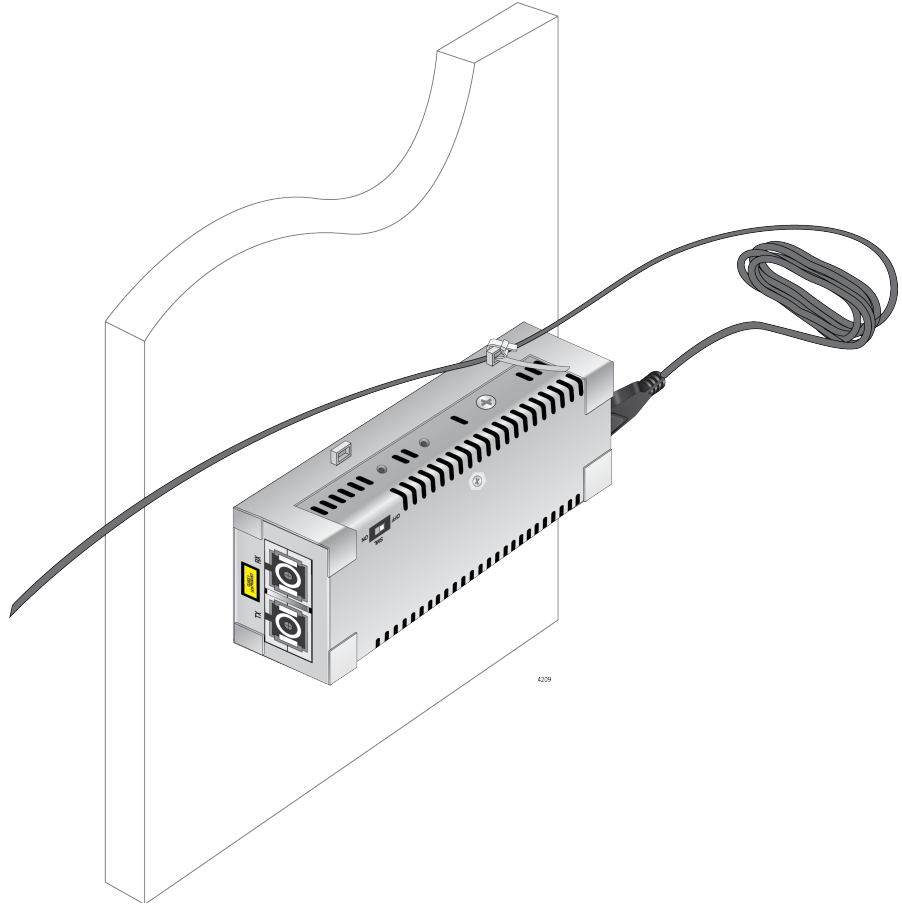

Figure 32. Securing the USB Cable Tie
2. Secure the USB cable to the media converter using one of the cable ties (included with the separately purchased wall-mount bracket) as described below and shown in Figure 32 on page 49: